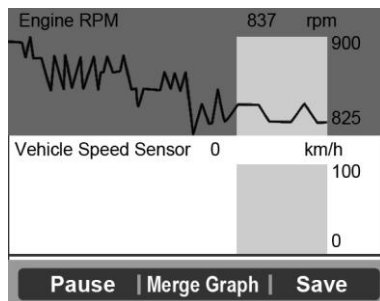

Figure 5.13
- If the **“Merge Graph”** on the bottom appears when a PID is selected to view, merged graph information is available. (Figure 5.13)